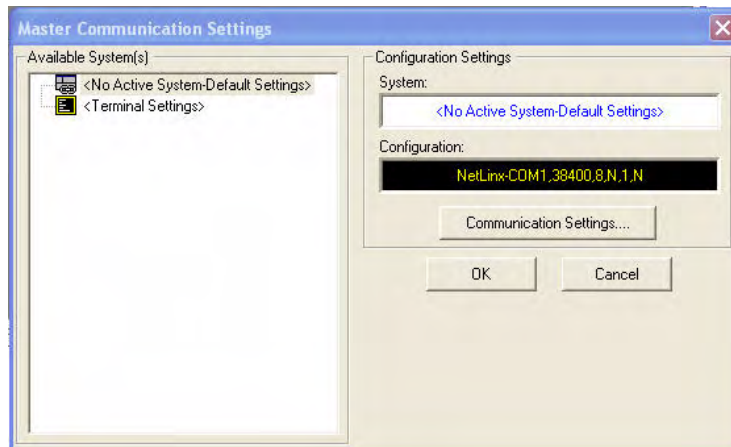

FIG. 81 Master Communications Settings dialog box
1. Launch NetLinx Studio 2.x and select **Settings > Master Communication Settings** from the Main menu to open the *Master Communication Settings* dialog (FIG. 81).